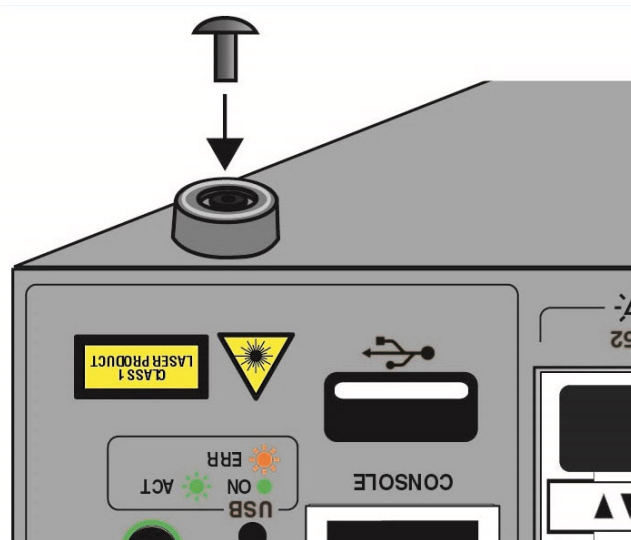

Figure 83. Inserting the Rivet into the Bumper Foot
- Insert the rivet to secure the bumper foot to the base. Refer to Figure 83.